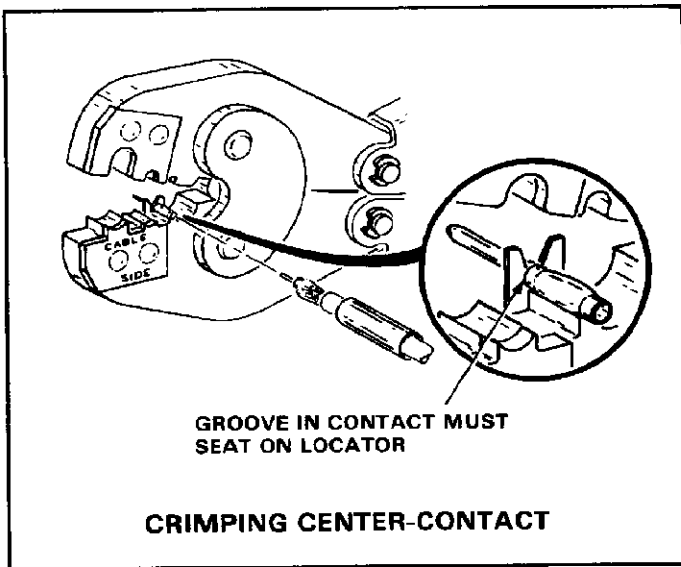

Fig. I-3
- Place contact on locator of tool with groove in contact seating on locator, and close tool handles just enough to hold contact without deforming wire barrel. See Figure I-3.